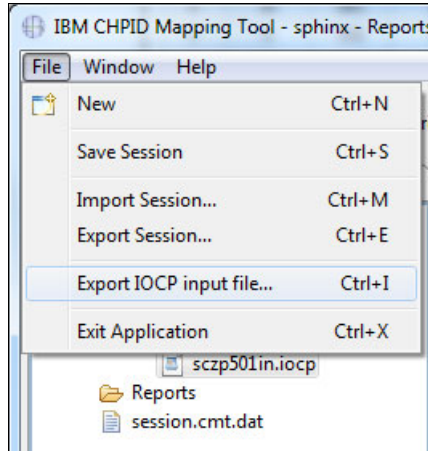

Figure 6-106 CMT - Export IOCP input file
1. Select **File** → **Export IOCP input file** (Figure 6-106).